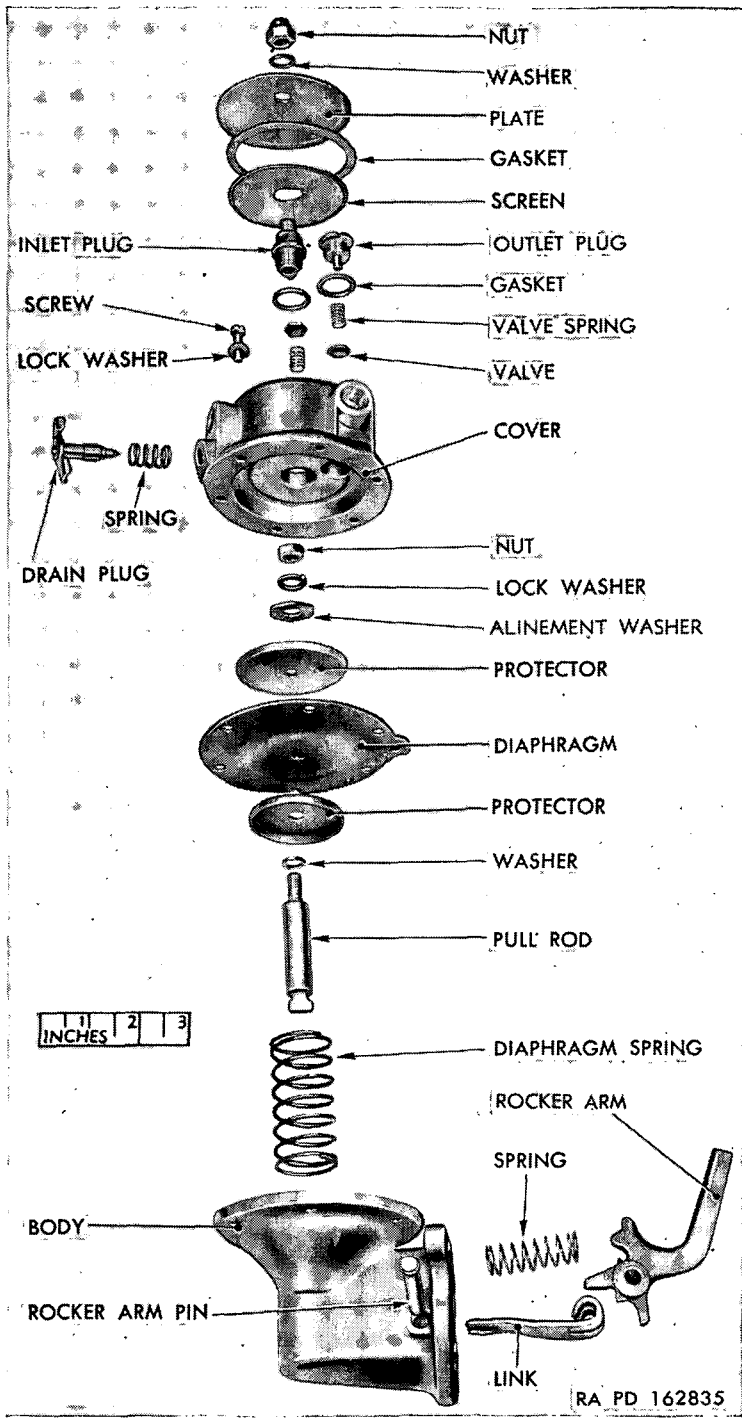

Figure 9. Fuel pump—disassembled (typical series G construction).
- (1) Mark edges of top cover and body (fig. 9) of series G fuel pump (fig. 8) with a file. Mark at heat shield stud, if used.
a. Assemble Body (fig. 9).
- (1) Place link in body through rocker arm port. Loop of link should be up. Drive rocker arm pin into body just far enough to pick up one link loop. Install rocker arm with spring in position. Drive pin through rocker arm hole, remaining link loop, and body. Assemble washer on hollow end of pin and rivet edges of pin over washer.
- (2) Soak new diaphragm in clean kerosene. Fuel oil may be used, but do not use shellac or sealing compound. Make an assembly of pull rod, gasket, lower protector (dish down), diaphragm, upper protector (dish up), alinement washer, lock washer, and nut. Aline any two opposite holes in diaphragm so they are parallel to flat at bottom of pull rod. Tighten pull rod nut while holding alinement washer with another wrench.
- (3) Assemble diaphragm spring over pull rod well in body. Insert diaphragm pull rod through spring and well of body. Turn diaphragm so flat of pull rod will enter slot in link. Push down and secure by turning diaphragm 90 degrees in either direction.